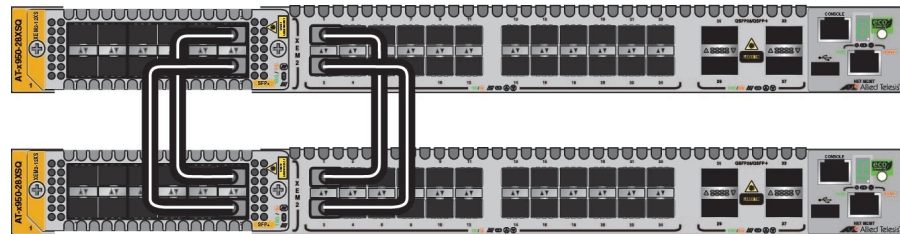

Figure 40. Unsupported Trunk with Both Base and XEM2 Line Card Ports
- ❑ Trunks cannot have both base ports and XEM2 Line Card ports. The unsupported trunk in Figure 40 consists of base 10Gbps ports and ports on XEM2-12XS Line Cards.